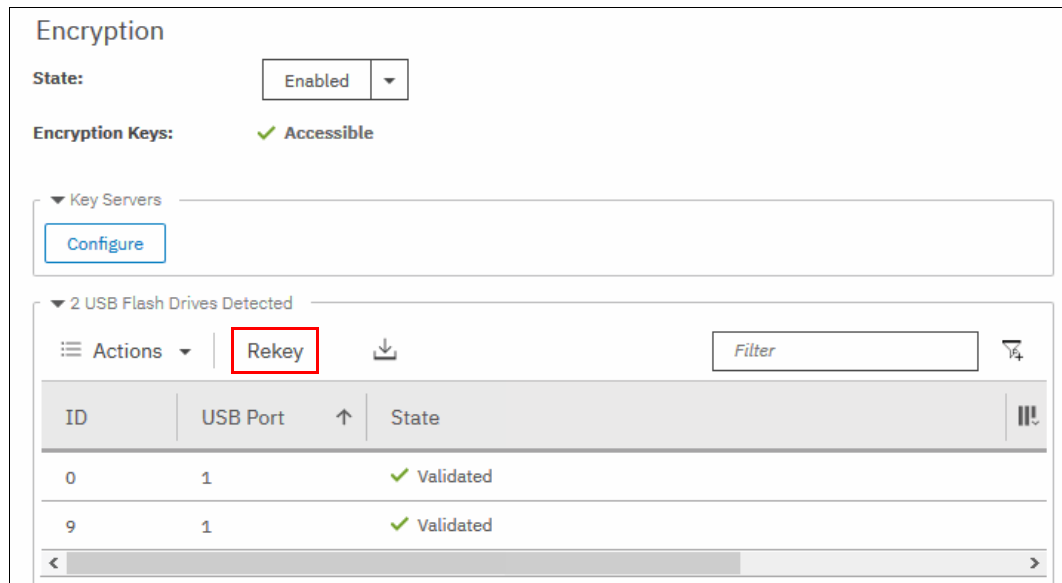

Figure 13-87 Start rekey on USB flash drives provider
2. Verify that all USB drives plugged into the system are detected and show as Validated, as shown in Figure 13-87. Click **Rekey**. You need at least three USB flash drives, with at least one reported as Validated to process with rekey.